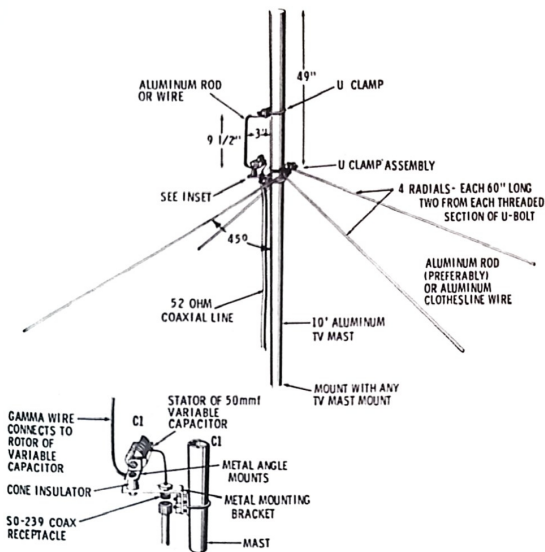

Fig. 8-1. 6-meter ground-plane antenna.
Fig. 8-1 shows a drooping ground-plane antenna which is the author's modification of an antenna originally worked out by K4PRL. It is simple to build and requires no hard-to-get parts. The radiating portion of the antenna is actually the top half of a 10-foot aluminum TV-antenna mast. The point at which the radials are attached establishes a ground. The portion of the antenna above that point is the actual radiator. The radials are slightly longer than the radiator.
1. Set up the antenna exactly to the dimensions shown in Fig. 8-1.